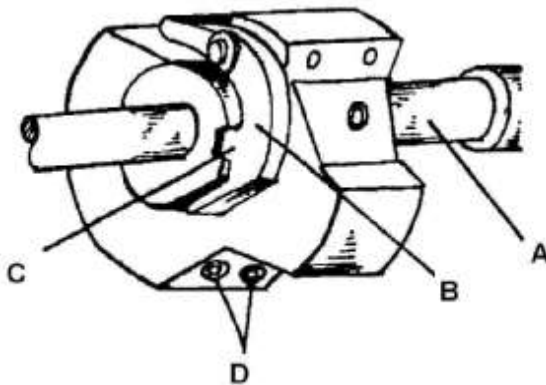

Fig. 8
The sewing machines are equipped with a safety clutch on the lower shaft (A) fig. 8 that allows the operator to turn the driving part of lower shaft (A) when the loopers or feed dogs are locked. The clutch consists of segment (B) engaging with groove (C) in the disk on lower shaft by the pressure of two springs. The spring pressure can be regulated with hexagon screws (D). If the clutch is skipping over find out the cause and remove the fault. Only a specialist is allowed to adjust the clutch force. The clutch must not slip in the course of normal sewing! If it is the case call a specialist to examine and adjust the machine.